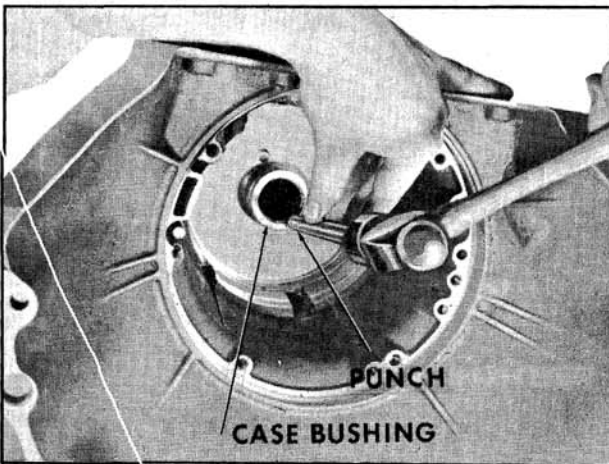

Fig. 6-393 Removing Case Bushing
1. Inspect case bushing for nicks, scoring or excessive wear. If damaged, remove as follows: Place small punch or Tool J-8400-1 in notch in case, then tap with hammer to collapse bushing. (Fig. 6-393)